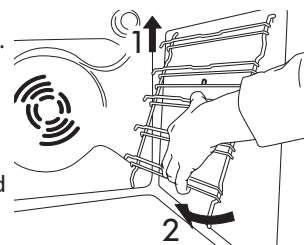

Fig. 3
1. To remove the grids, lift them up (1) and turn them (2) as shown in fig. 3.